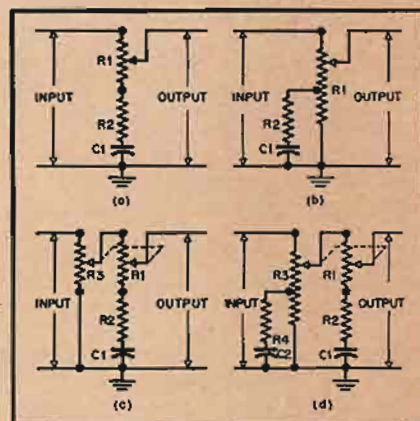

Fig. 7. Bass-compensation input circuits.
Such a combined control has been used in one particular form, as at (B) of Fig. 7, in many receiver designs over a period of about twenty years, affording some, but usually not enough compensation. This form, as well as that of Fig. 6, is based on the fundamental compensator circuit of (A), Fig. 7. As the slider of potentiometer R_1 moves down toward R_2 , the output voltage becomes more nearly the potential drop existing across capacitor C_1 . R_2 is the limiting factor which determines the maximum high-frequency attenuation and, together with
C_1 , the upper limit of frequency compensation ($T = R_2 C_1$, and $f_c = \frac{1}{\pi T}$ at +1 db from flat response). This circuit is simple and approaches a maximum of 6 db compensation per octave below f_c ; unfortunately, as in Fig. 6, it has the fatal defect of not allowing the volume control to reach essentially zero output level, because R_2 must have a rather high finite value (about 1/20 of R_1). This difficulty can be overcome in inexpensive fashion by shunting $R_2 C_1$ to ground with part of potentiometer R_1 , which then also provides a d.c. grid-return path. The result is the familiar tapped volume control circuit of (B), Fig. 7. The response obtained with typical values in such a system is shown in Fig. 8. The compensation is not very close to the theoretical values of Fig. 5 for two reasons: (1) $R_2 C_1$ is shunted by a fixed value of resistance (from the potentiometer tap to ground) which is
A more expensive but generally better way of overcoming the low volume limitation of the basic circuit of (A), Fig. 7, is to add a linear voltage divider section ahead of it. Potentiometer R_3 in (C) accomplishes the purpose of reducing the output to "zero" in the region where R_2 prevents the slider of R_1 from reaching ground potential. The limitation on the low-frequency compensation afforded by this circuit to less than 6 db per octave maximum is primarily due to the reduction in signal current through branch $R_1R_2C_1$ at the lower frequencies. This takes place as a result of the rise in reactance of C_1 with decreasing frequency with a proportionate diversion of current through the lower shunt value of R_3 at reduced volume settings. It is also feasible to include high-frequency